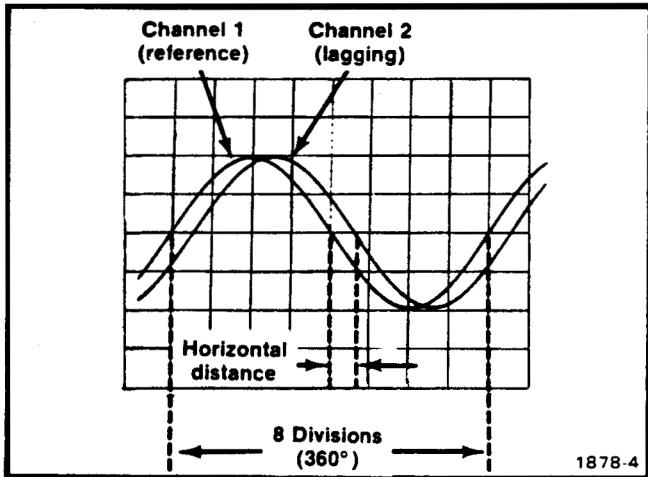
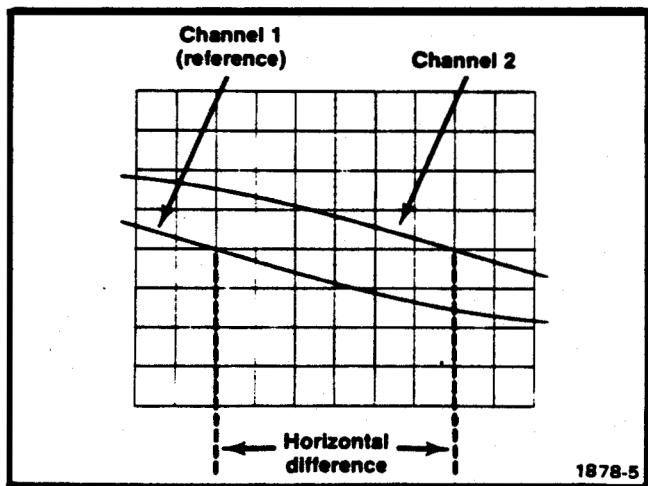

Fig. 2-8. Measuring phase difference.
Fig. 2-9. High-resolution phase difference measurement with increased sweep rate.
- Turn the variable SECONDS/DIV control until one cycle of the reference signal (channel 1) occupies exactly eight divisions between the second and tenth vertical lines of the graticule (see Fig. 2-8). Each division of the graticule represents 45° of the cycle ($360^\circ \div 8$ divisions = 45° /division). The sweep rate can be stated in terms of degrees as 45° /division.
EXAMPLE: Assume a horizontal difference of 0.6 division with a sweep rate of 45° /division as shown in Fig. 2-8. Use the formula:
EXAMPLE: If the sweep rate were increased 10 times with the magnifier, the magnifier sweep rate should be $45^\circ/\text{division} \div 10 = 4.5^\circ/\text{division}$. Fig. 2-9 shows the same signals as used in Fig. 2-8, but with the X10 SWP MAG control pulled out. With a horizontal difference of six divisions, the phase difference is: